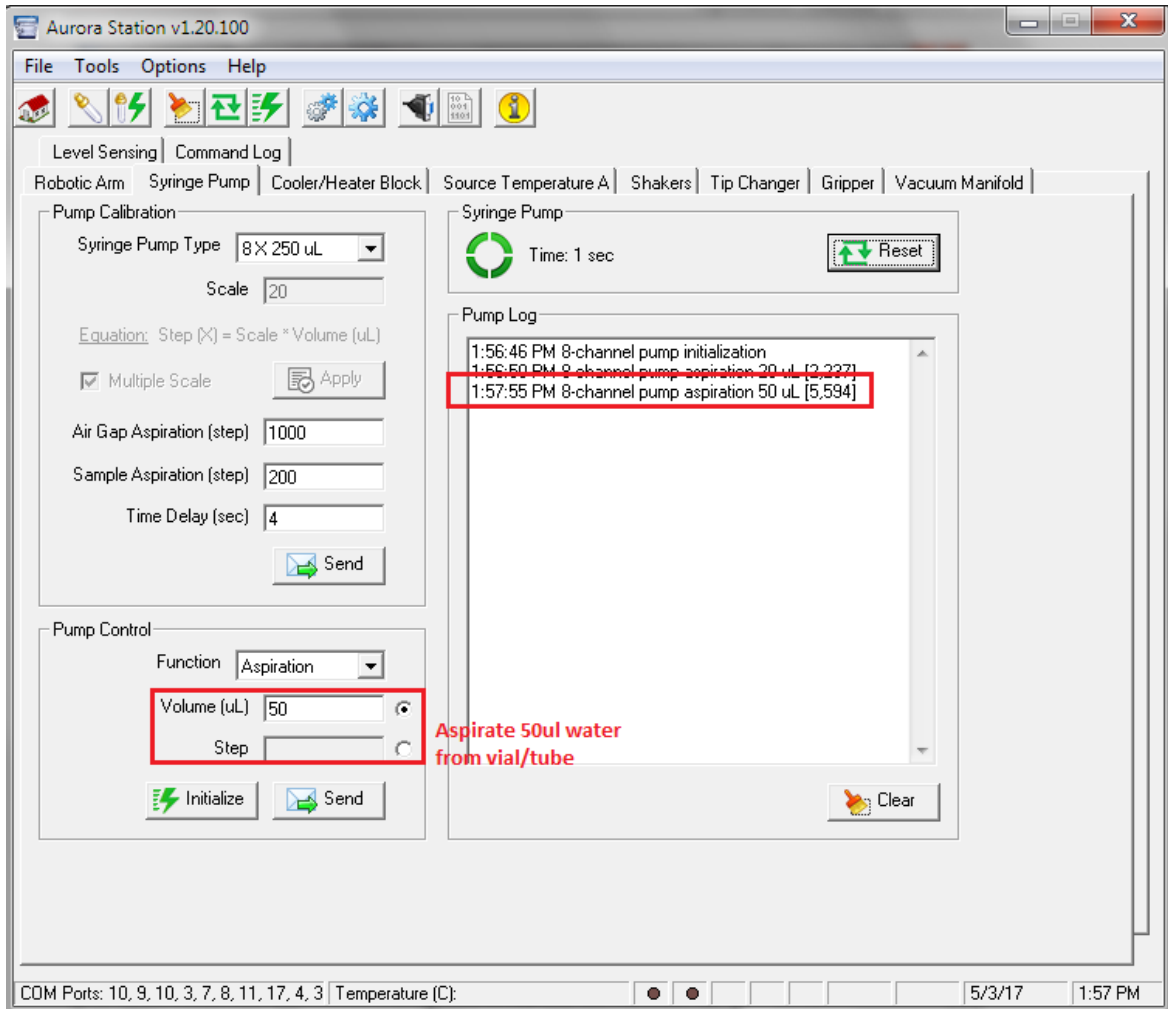

Figure 9-56 Syringe Pump –Aspirate 50µL volume
7. Enter a 50µL volume in the pump control, and click send (Again place a tube of distilled water below the barrel to aspirate the 50 µL volume). (Figure 9-56 Syringe Pump –Aspirate 50µL volume)